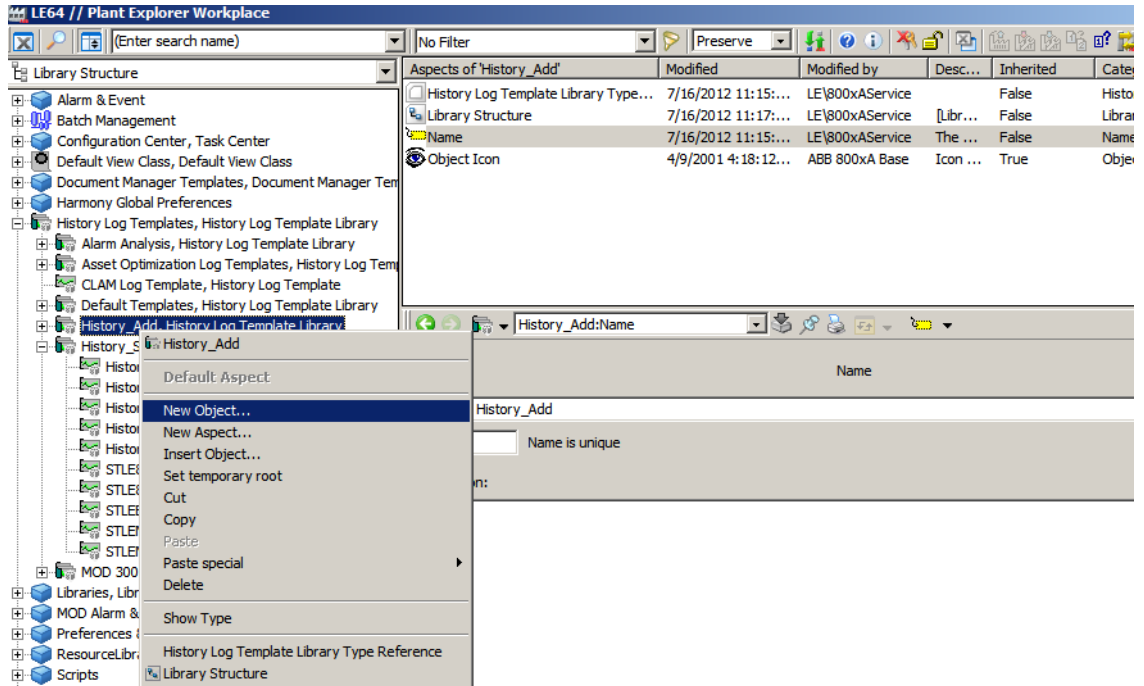

Figure 195. History Log Template Library — New Object
2. Right-click **History Log Templates, History Log Template Library** and select **New Object** from the context menu. The **New Object** window appears as shown in Figure 195.